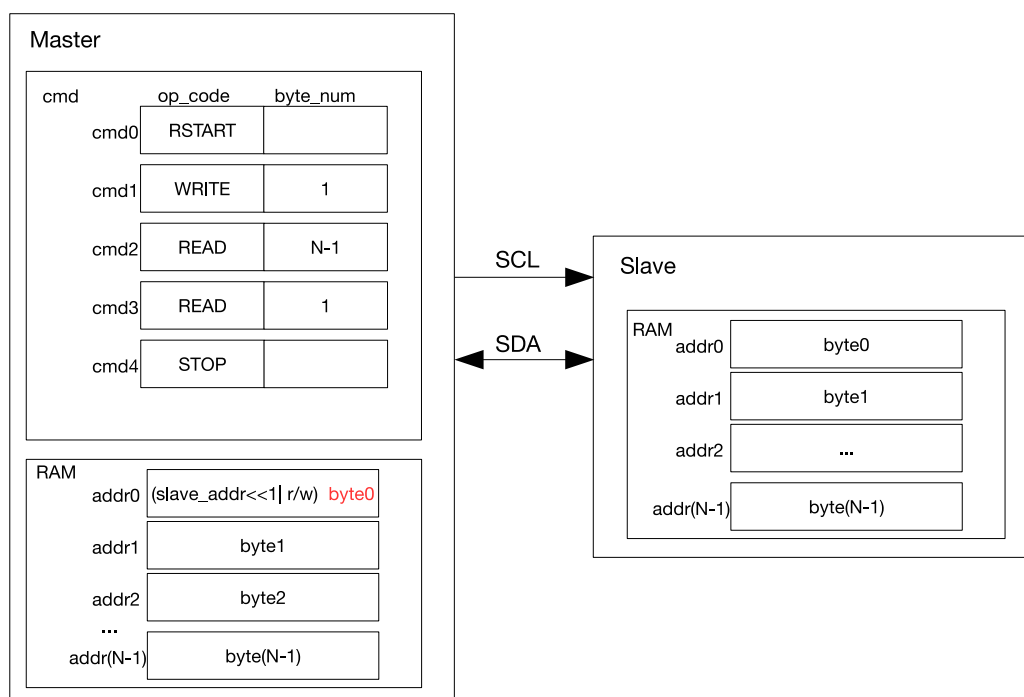

Figure 21-10. I2Cmaster Reading I2Cslave with a 7-bit Address
Figure 21-10 shows how I2Cmaster reads N bytes of data from an I2C slave's registers or RAM using 7-bit addressing. cmd1 is a WRITE command, and when this command is executed, I2Cmaster sends I2Cslave address. The byte sent comprises a 7-bit I2Cslave address and a  $R/\overline{W}$  bit. When the  $R/\overline{W}$  bit is 1, it indicates a READ operation. If the address of an I2C slave matches the sent address, this matching slave starts sending data to I2Cmaster. I2Cmaster generates acknowledgements according to `ack_value` defined in the READ command upon receiving a byte.
As illustrated in Figure 21-10, I2Cmaster executes two READ commands: it generates ACKs for (N-1) bytes of data in cmd2, and a NACK for the last byte of data in cmd3. This configuration may be changed as required. I2Cmaster writes received data into the controller RAM from addr0, whose original content (a I2Cslave address and a  $R/\overline{W}$  bit) is overwritten by byte0 marked red in Figure 21-10.
1. The procedures for Segment0 is similar to Figure 21-10, except that the last command is an END.